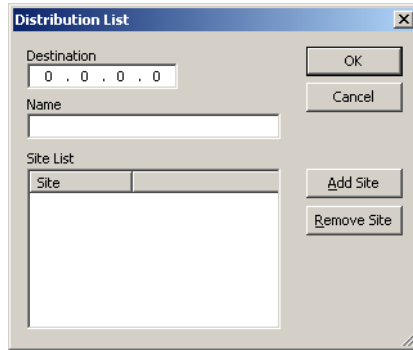

Figure 5-30 Distribution List Window
2. Choose **Insert** to open the **Distribution List** window shown in figure 5-30.